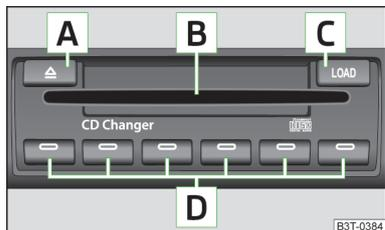

Fig. 132
➤ Touch the button **C** » Fig. 132 and guide the CD (compact disc) into the CD case **B**.
➤ Press and hold the button **C** » Fig. 132 for longer than 2 seconds and guide the CDs one after the other (maximum 6 CDs) into the CD case **B**.
➤ Press the button **C** » Fig. 132.
➤ Press the button **A** » Fig. 132 to eject a CD.
➤ Press and hold the button **A** » Fig. 132 for more than 2 seconds to eject the CDs.
- Insert a CD, with the labelled side facing up, into the CD slot **B** » Fig. 132 until it is automatically drawn in. The play function will start automatically.